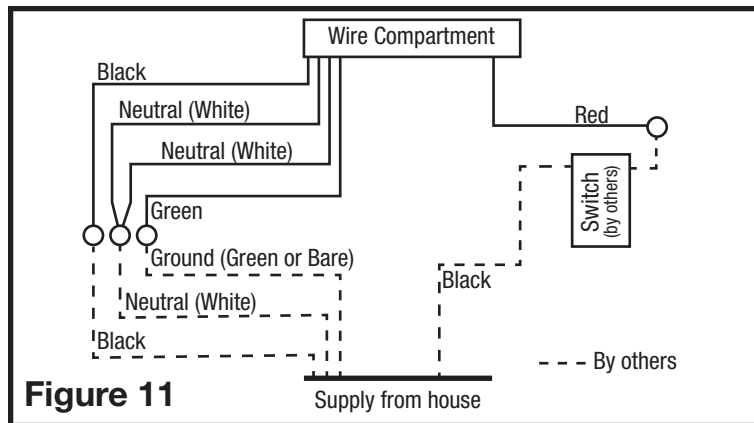

Figure 11
5. Secure the electrical wires to the housing with an approved electrical connector. For two speed fans wired for continuous ventilation, connect the White wires of the fan to the White (Neutral) wire from the power source. Connect the ground wire from the house to the green wire from the fan housing. Connect the Black wire of the fan to the Black wire (Hot) from the power source. The fan will operate on low speed continuously and boost to high speed when motion is detected. Using a properly grounded standard duplex toggle switch (such as Leviton 5224-2W, not included) connect the black wire from the supply to one side of the top and bottom switch. Connect the red wire (light) from the fan housing to the other side of the top switch. A manual override switch (not included) can be used to provide a manual fan Off function (Figure 11).